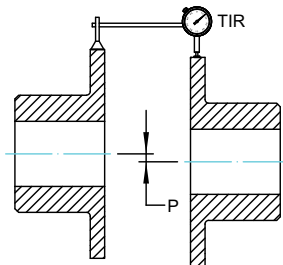

Figure 7 - Parallel Offset (TIR) Measurement.
- 8.5. When Parallel Offset is measured by rotating the hubs in unison with dial indicators as shown in Figure 7, the total indicated reading (TIR) should be divided by (2) to calculate “P”.